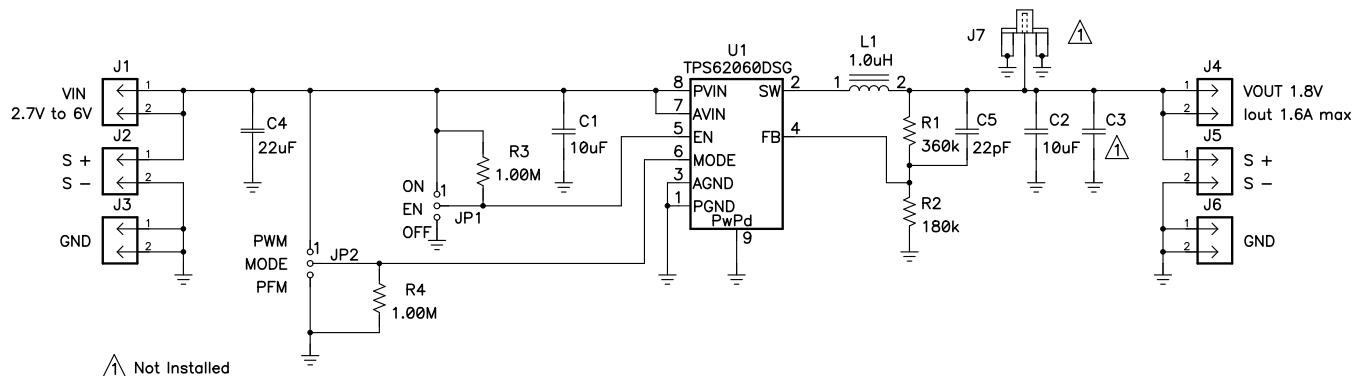

Figure 1. TPS62060EVM Schematic
Figure 1 shows the TPS62060EVM schematic.
**NOTE:** Figure 1 is provided for reference only. See the bill of materials (Table 2) for specific component values.